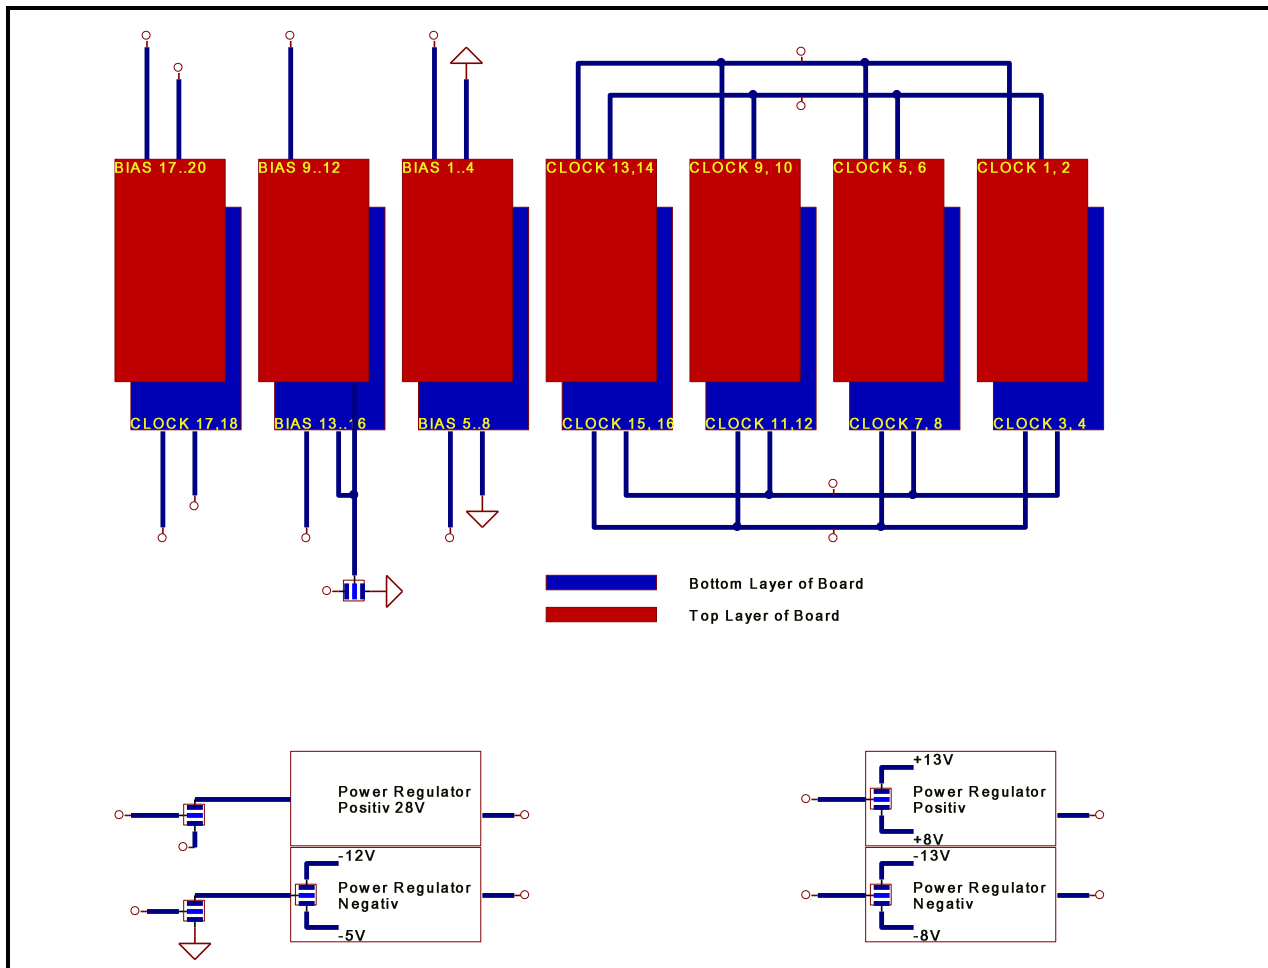

Figure 19 Clocks and Biases – Rails and Jumper Settings
To accommodate different detectors, the rails for clocks and biases are jumper selectable (Figure 19). The drawing also reflects the lay-out on the Basic Board for the clock and bias modules.
- Bias and Clock Settings selects the Bias and Clock rails (see Figure 19)